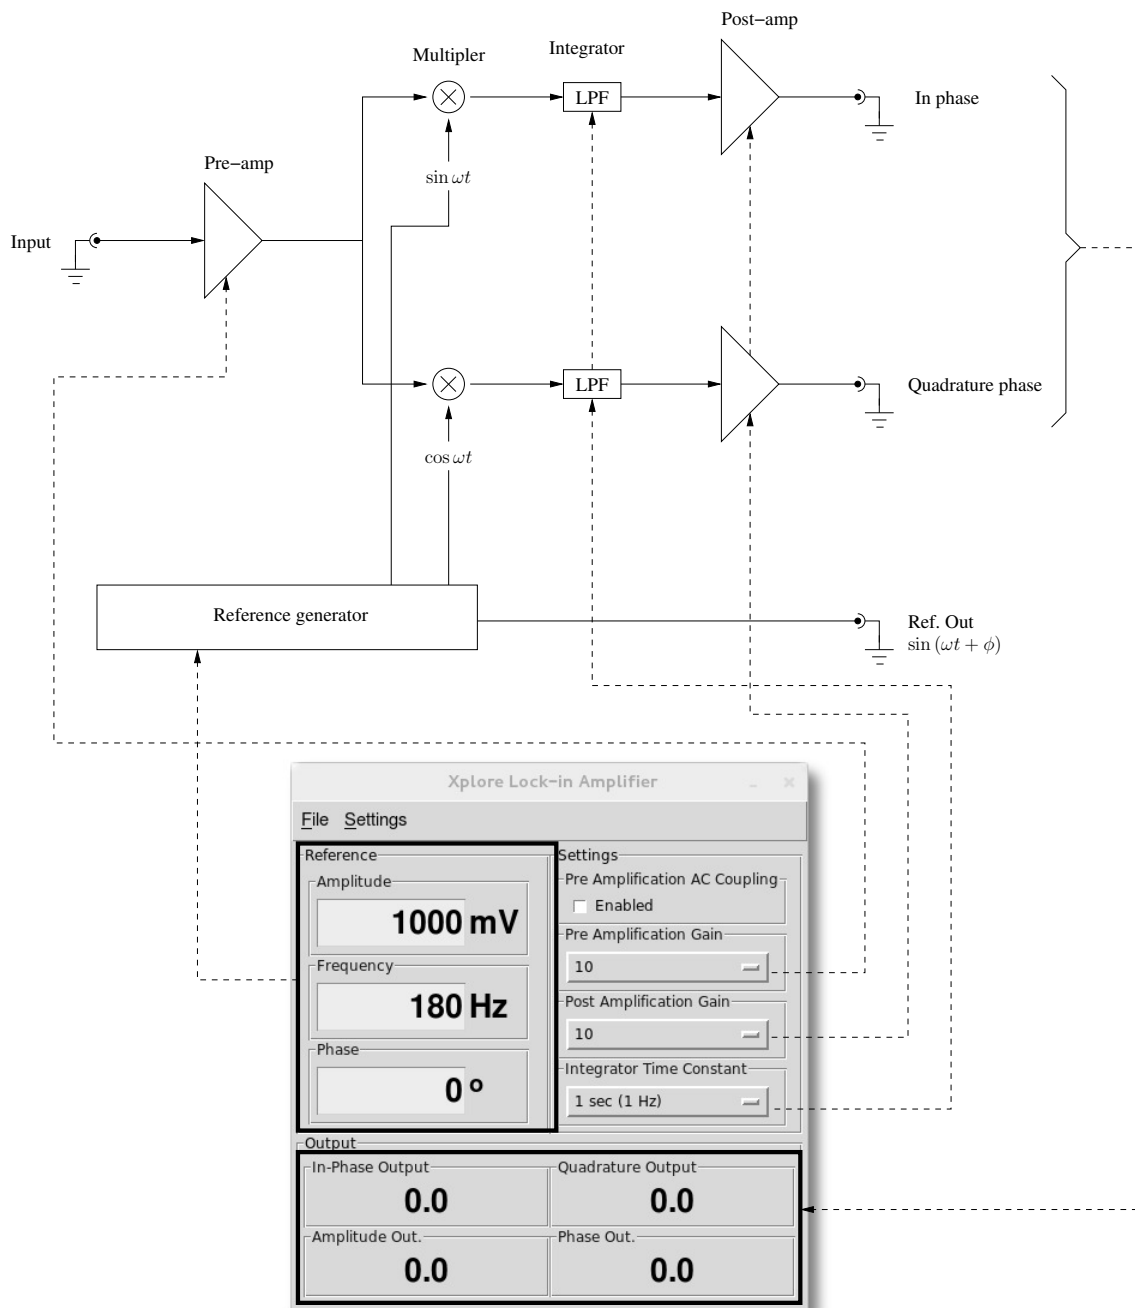

Figure 3.1: Lock-in amplifier block diagram
- Set lock-in amplifier parameters, as shown in Figure 3.1.